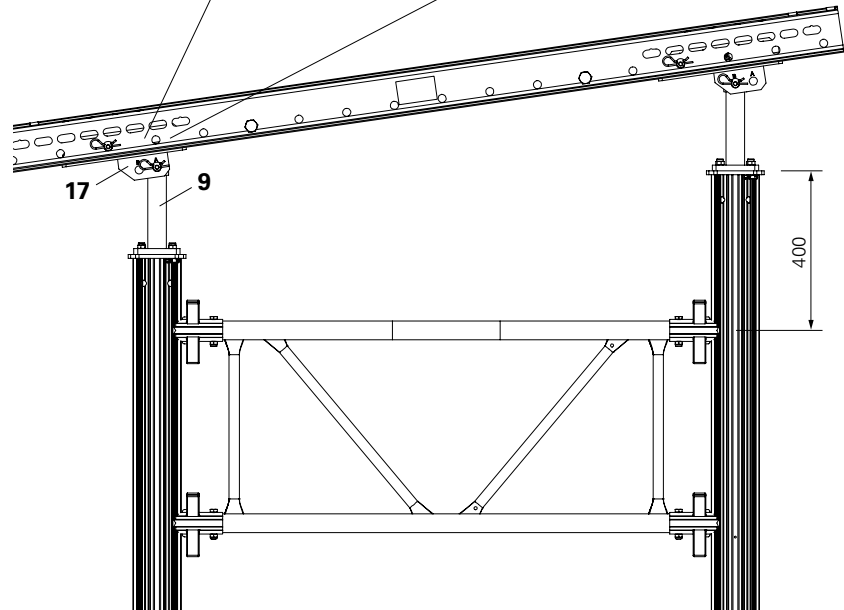

Fig. A2.10
- The Push Prop Head MP/SRU (9) with Connector MP/SRU (17) is used to brace inclined Main Beams SRU on shoring towers. (Fig. A2.10)